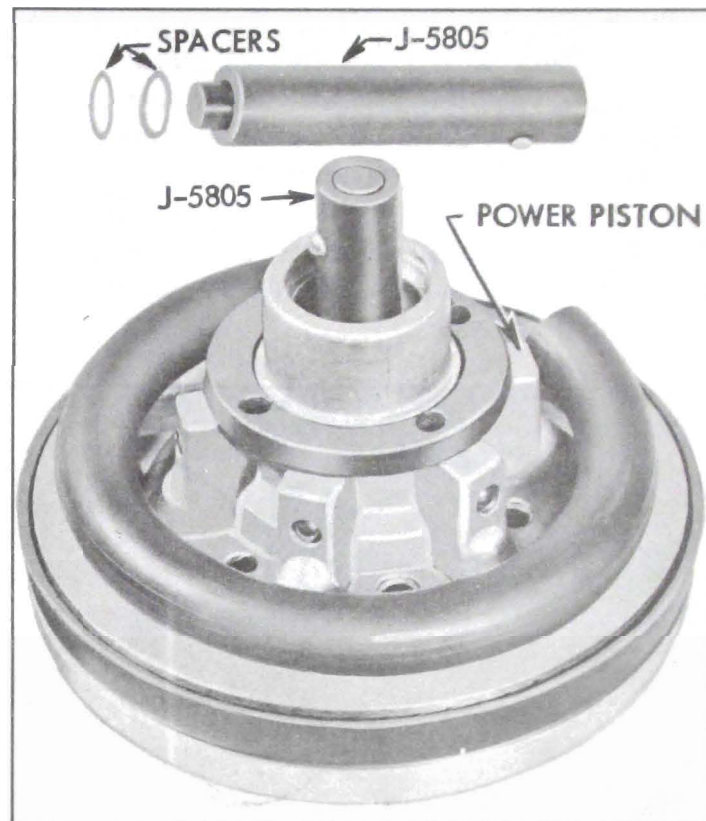

Figure 9-27—Checking Spacer Thickness
16. Set spacers (shims) on Gauge J-5805. Hold power piston assembly with air valve bore down and insert gauge and spacers as shown in figure 9-27. (The body of the gauge sets against the smaller reaction plate while the pin of the gauge extends through to contact the master cylinder piston.) Now turn whole assembly over to bring gauge on top and observe gauge pin in gauge body as shown in figure 9-27. CAUTION: Hydraulic master cylinder piston must be at lowest limit for correct use of gauge. Do not hold assembly by hydraulic piston or allow hydraulic piston to contact bench.